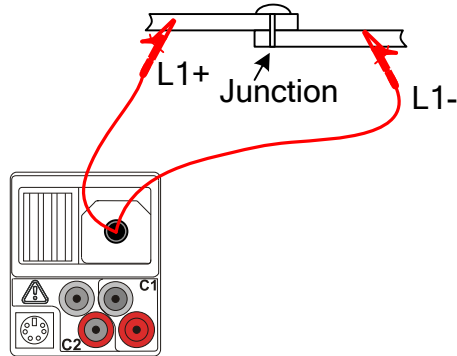

Figure 5.11: Junction resistance measurement example
- ❑ **Connect** the test leads L1+ and L1- to the tested object (see *Figure 5.11*).